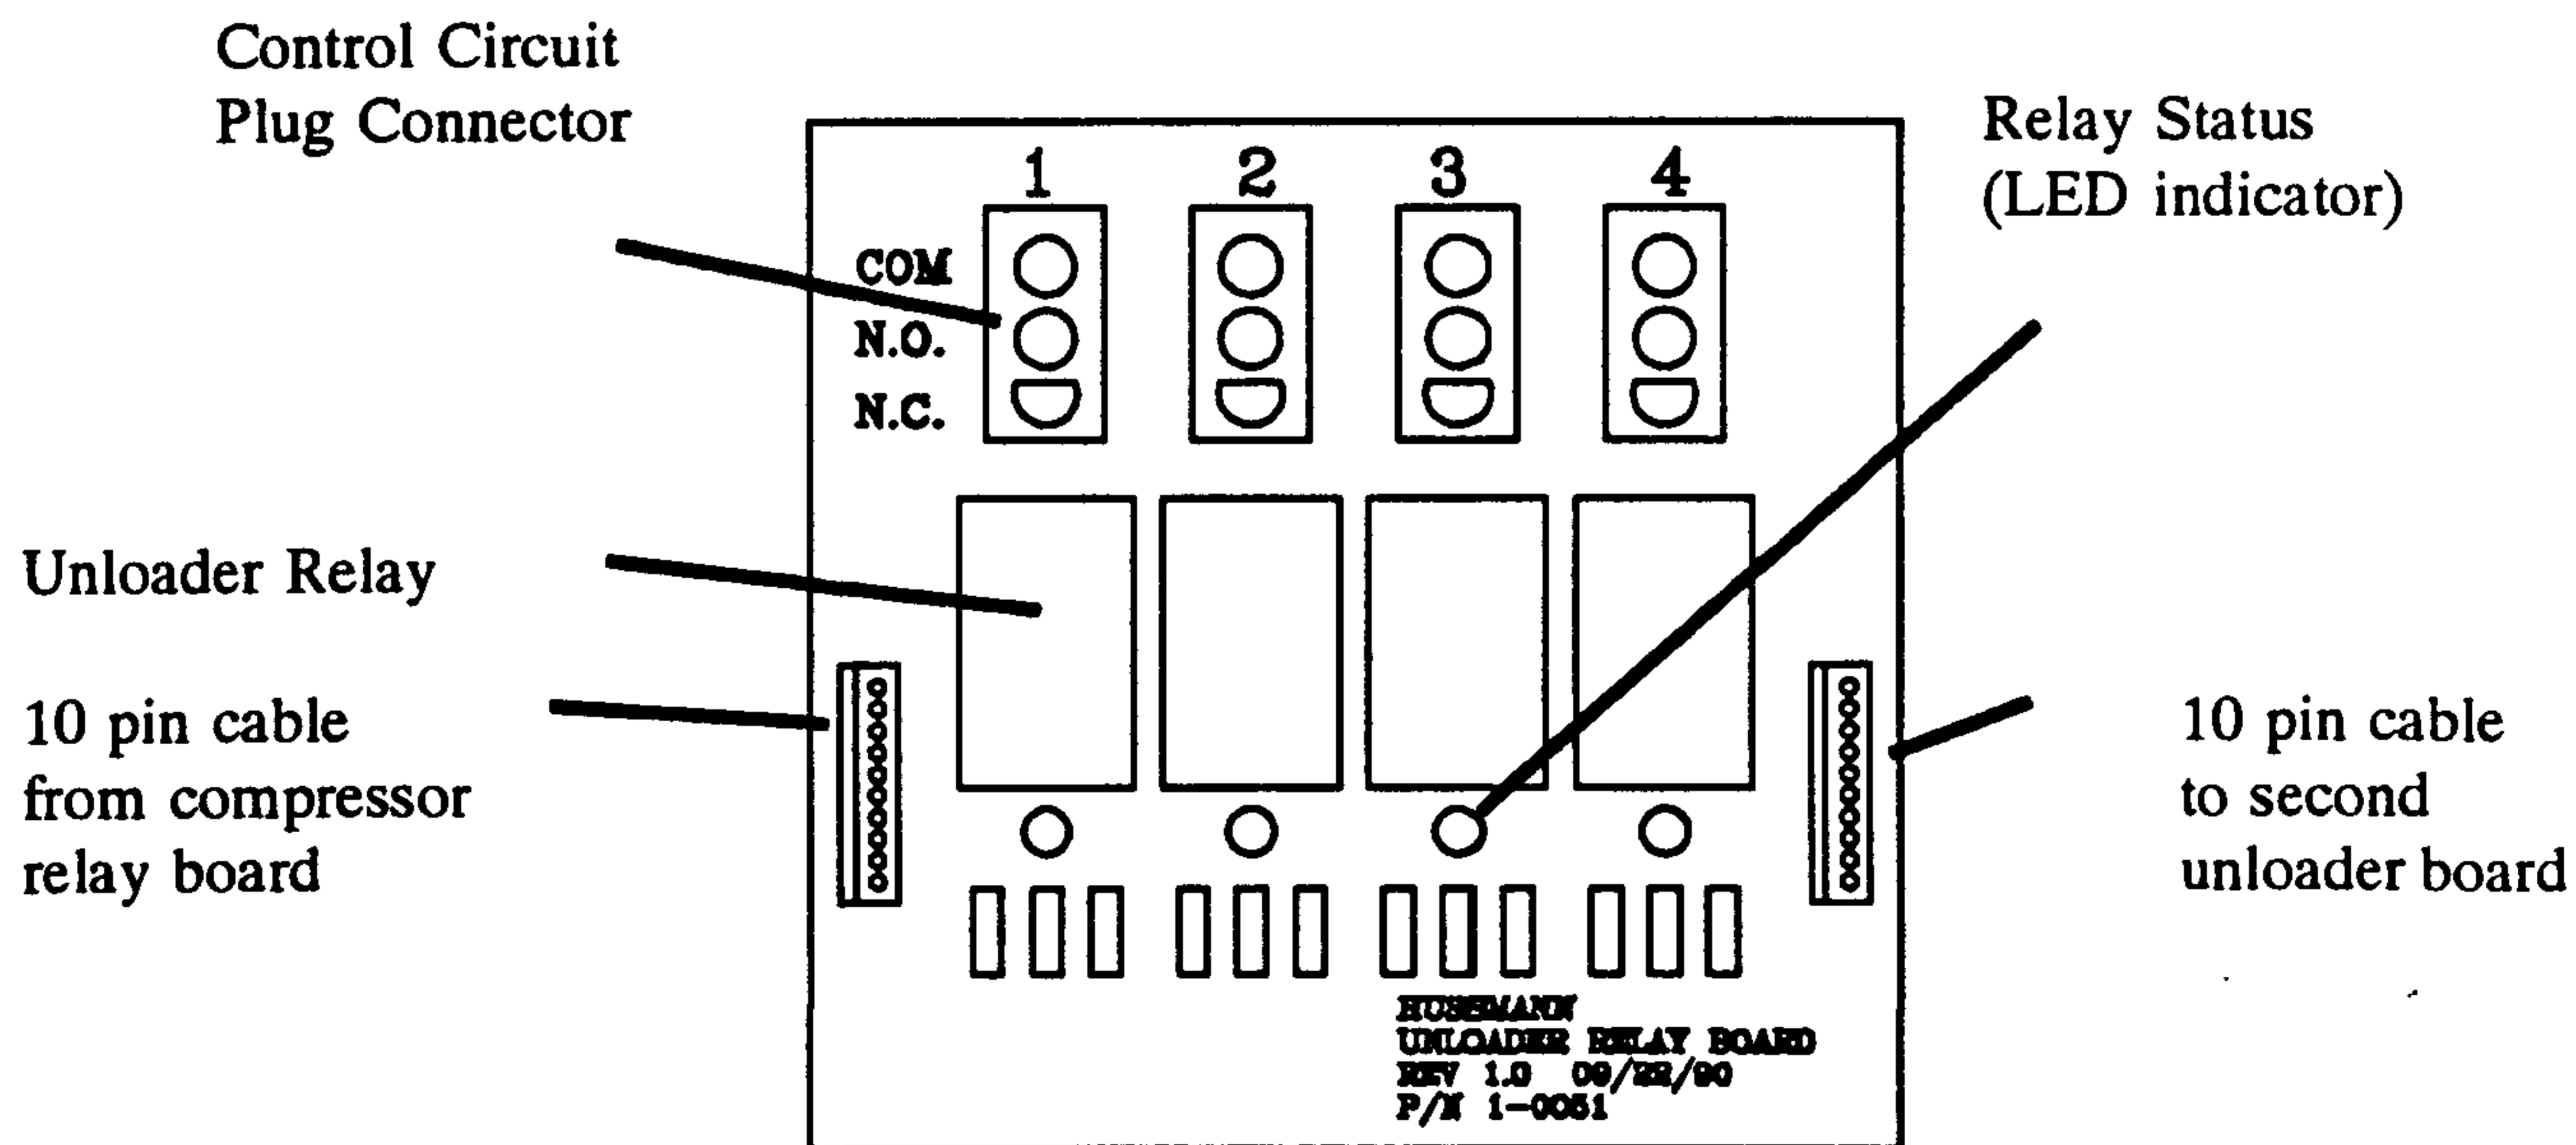

Figure 1-1. Unloader Relay Board
- Step 3 Check that the normally open set of contacts of the unloader relay closed. Remove the Control Plug Assembly from the Control Circuit Plug Connector and measure across the 'C' and 'NO' set of pins (refer to Figure 1-1). Use a digital voltmeter with the scale set to read ohms.